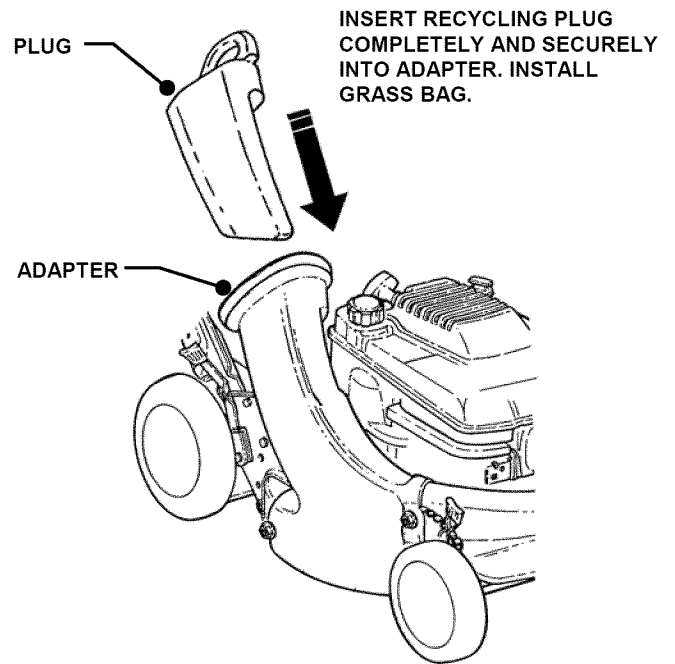

FIGURE 2.10
STEP 1: Once adapter has been installed, recycling may be desired. Insert recycling plug completely and securely into adapter. Install grass bag. See Figure 2.10.